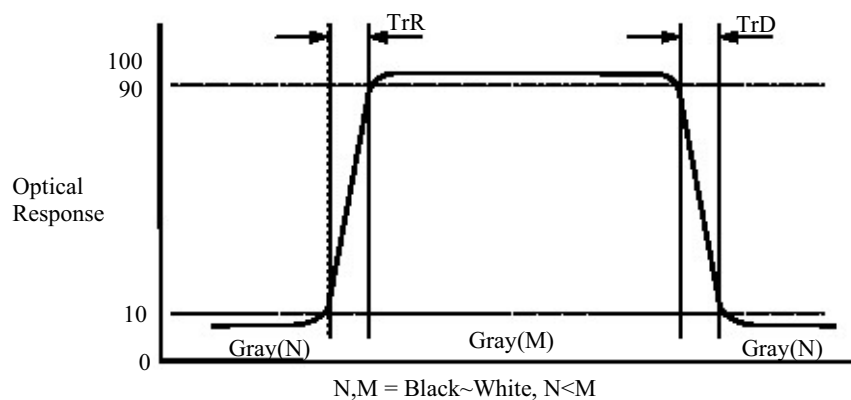

FIG. 3 Response Time
4. Response time is the time required for the display to transition from G(N) to G(M) (Rise Time, Tr_r) and from G(M) to G(N) (Decay Time, Tr_d). For additional information see the FIG. 3. (N<M)